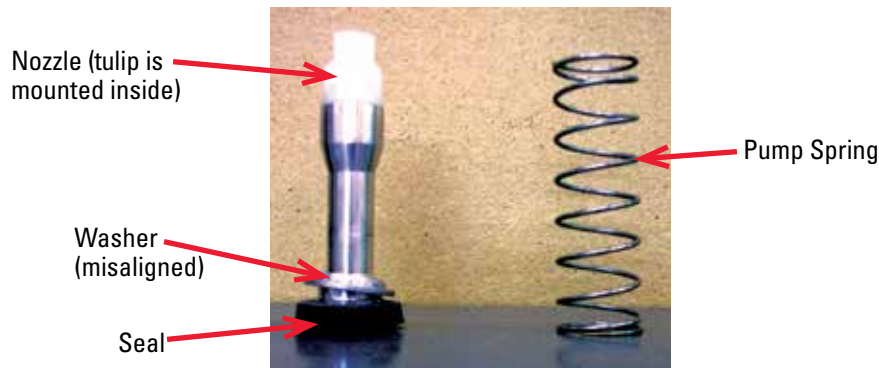

Figure 5. Puffer assembly and spring. Note that puffer washer is illustrated in a *misaligned* position. Install washer seated in place and flush to seal.
- a. Install the replacement puffer assembly in the correct orientation. In particular, make certain that the pump washer is down against the pump seal. See Figure 5. Also, make sure the black rubber seal on the puffer assembly is lubricated using a silicon grease (such as by Dow Corning).